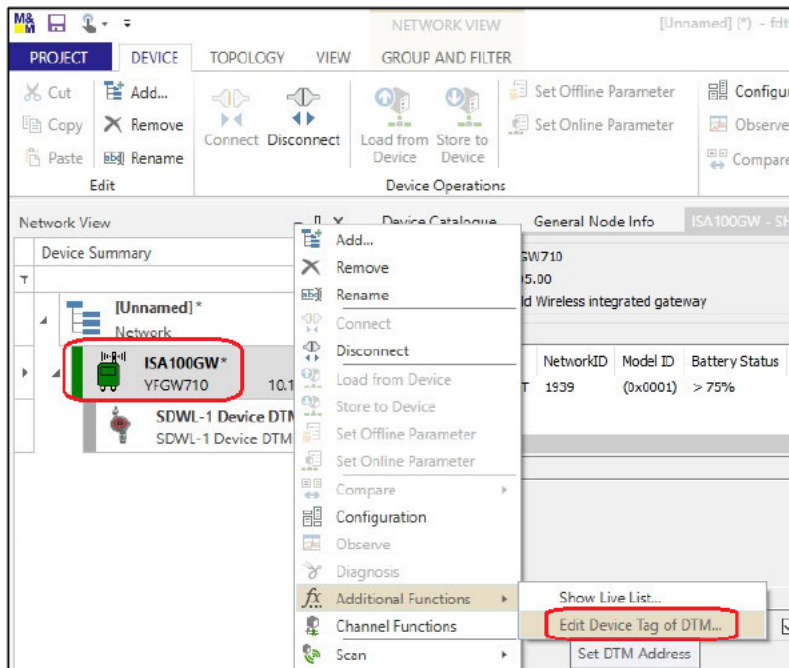

Figure 5-47 Selecting “Edit Device Tag of DTM...” menu
- ⑨ Next, right-click “ISA100GW” in the tree menu on the left side of the main window, then select “Edit Device Tag of DTM...”. (Figure 5-47)